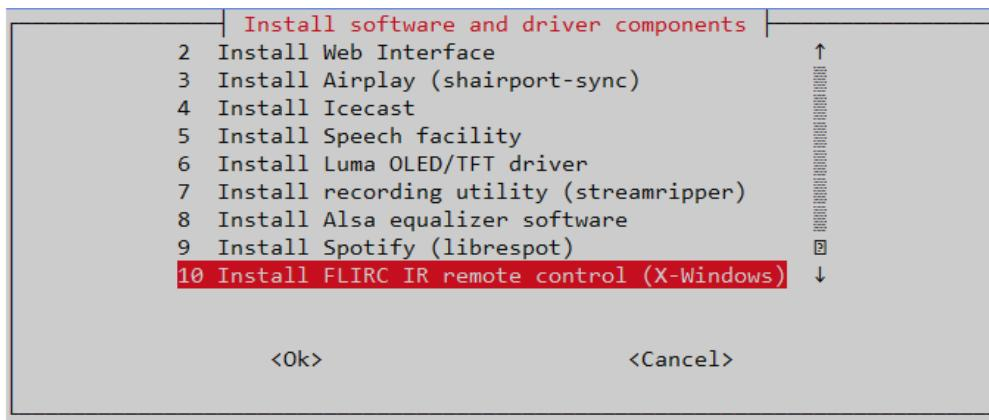

Figure 214 Install FLIRC IR remote control
- Select option **10 Install FLIRC IR remote control (X-Windows)** from the **radio-config** menu shown in *Figure 214 Install FLIRC IR remote control* on page 165. Note that you will need to use the down arrow key on your keyboard to see option 10.